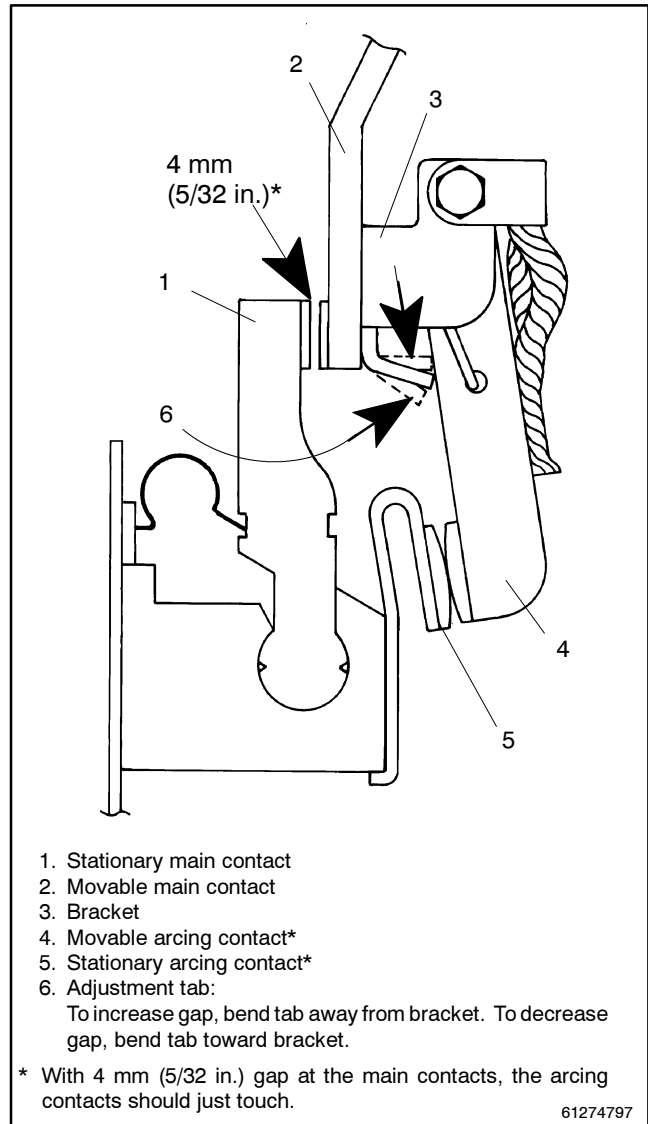

Figure 10-5 Arcing Contact Adjustment (side view)
2. Check the main contact gap. When installing a new arcing contact assembly, a gap of 4 mm (5/32 in.) between the main contacts is automatically obtained when the arcing contacts just touch. However, if a minor adjustment is necessary to obtain this gap, bend the adjustment tab on the arcing contact assembly. Refer to Figure 10-5 for instructions on tab adjustment.